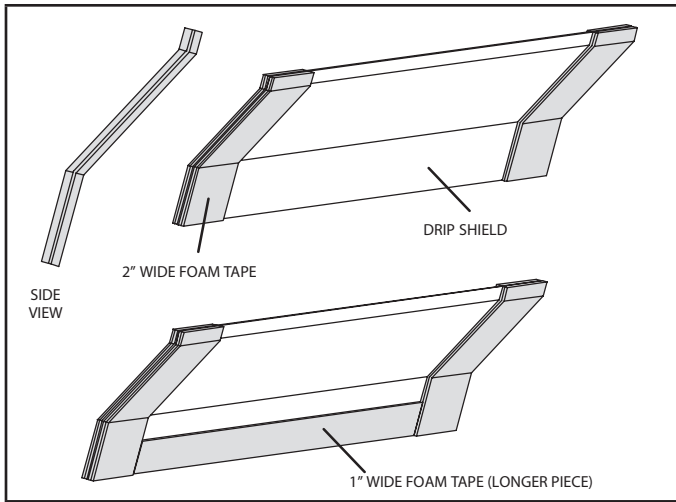

FIGURE 14. Applying Foam Tape to Drip Shield
- 4 - Foam tape that is provided creates a seal between the drip shield and the coil so that water does not leak into the air stream. The foam tape pieces are precut. Apply the tape to the drip shields as illustrated in figure 14 and specified as follows: